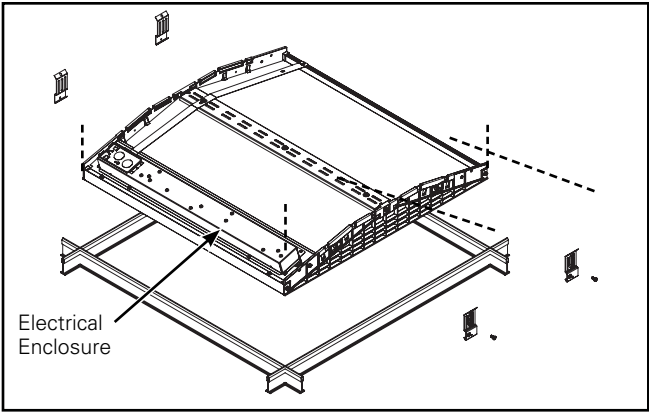

Figure 2. Install in Ceiling T-Grid System
- Install the luminaire into the ceiling T-grid system. Ensure that luminaire sets snugly in T-grid system (Figure 2.). Ensure that all luminaires in an area are oriented in the same direction.